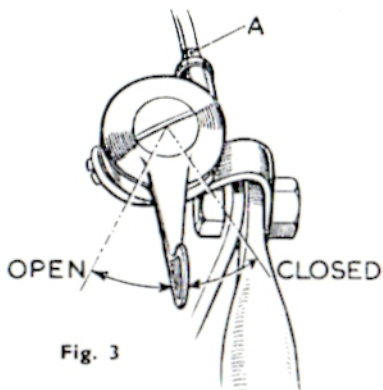
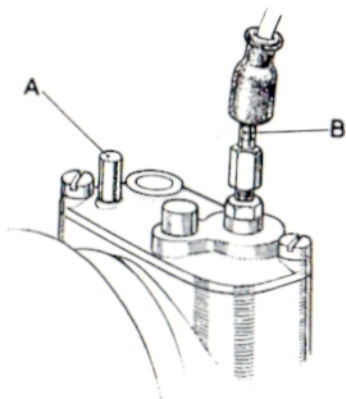

Fig. 3
Fig. 12
3. Open throttle lever (Fig. 3) approximately to the half-way position. Close choke by depressing the choke lever (B, Fig. 17). Only in cold conditions may it be necessary to depress the carburettor tickler (A, Fig. 12).
3. Mixture too rich due to use of tickler (A, Fig. 12) or to use of choke when warm. *Remedy* — Turn off petrol, open throttle wide and turn engine over slowly a few times with the kickstarter. Reset throttle lever, turn on petrol and start engine.
- (c) Both ends of the throttle inner cable. (A, Fig. 3 and B, Fig. 12). Expose these by drawing back the outer cable a little way by hand with the throttle lever fully closed.